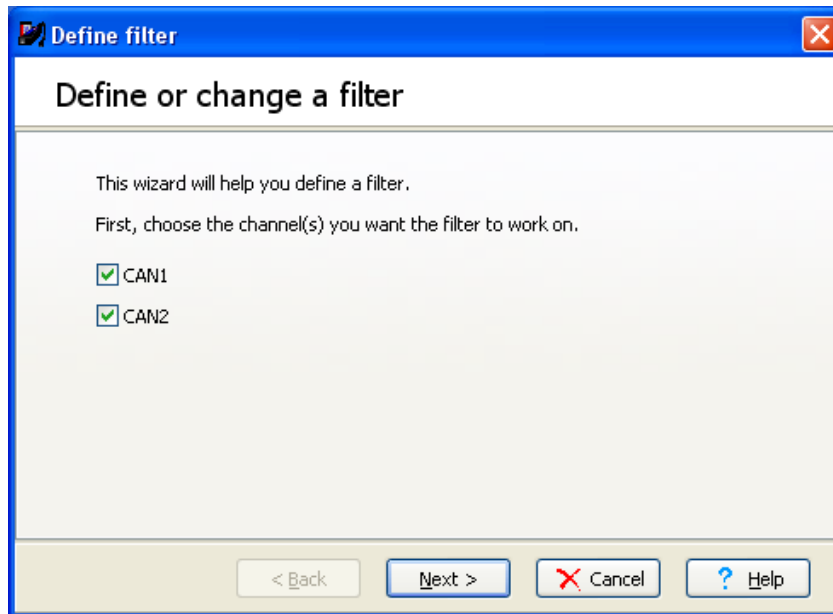

Figure 14. Define filter.
- Click the *Add* button. A wizard will be shown and help you to define the first filter. See Figure 14.